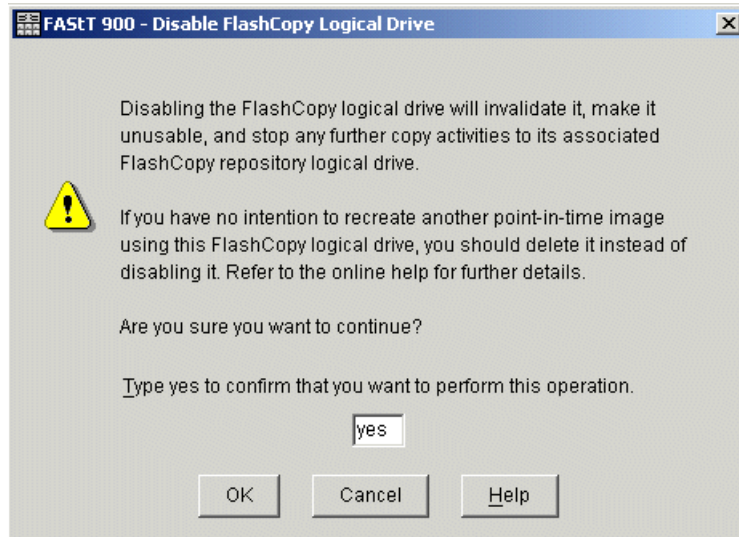

Figure 7-37 Disable FlashCopy confirmation
2. The Disable FlashCopy Logical Drive confirmation window (Figure 7-37 on page 226) opens. On this window, type yes and click **OK** to begin the disable operation.